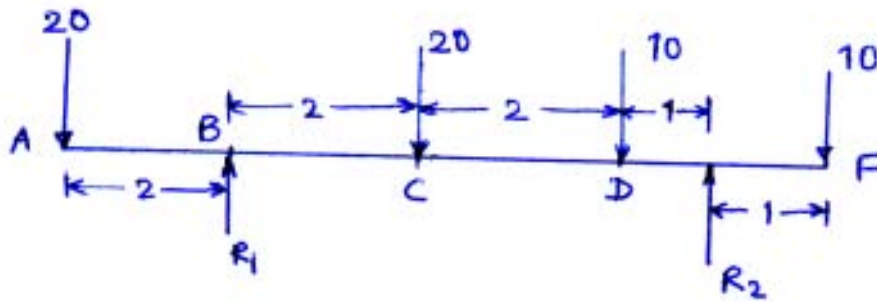

Fig. 2
- 5. a) For overhang beam shown in Fig. 2. draw bending moment and shear force diagrams. Loads are in kN and length in meter. 10